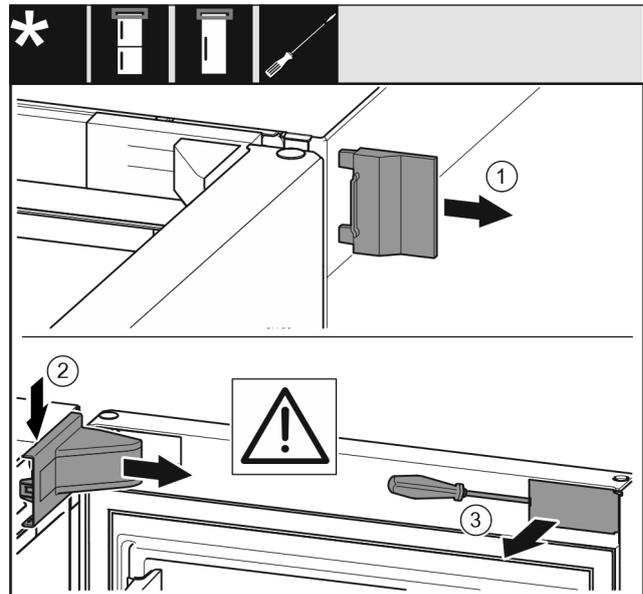

Fig. 8
- ▶ Remove the outer cover. Fig. 8 (1)
- ▶ Disengage and release the bearing bracket cover. Remove the bearing bracket cover. Fig. 8 (2)
- ▶ Unlatch the panel with a slotted screwdriver and swivel it to one side. Fig. 8 (3)